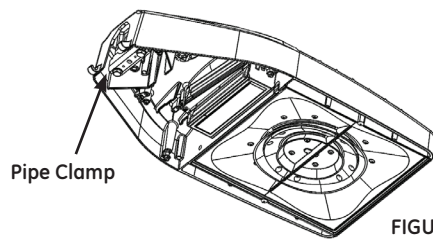

FIGURE 1
- The pipe clamp (See Figure 1.) accommodates 1 1/4 inch (1.660 OD) through 2 inch (2.375) O.D. pipe. Adjust the two pipe clamp bolts so that the clamp opening is slightly larger than pipe size being used.